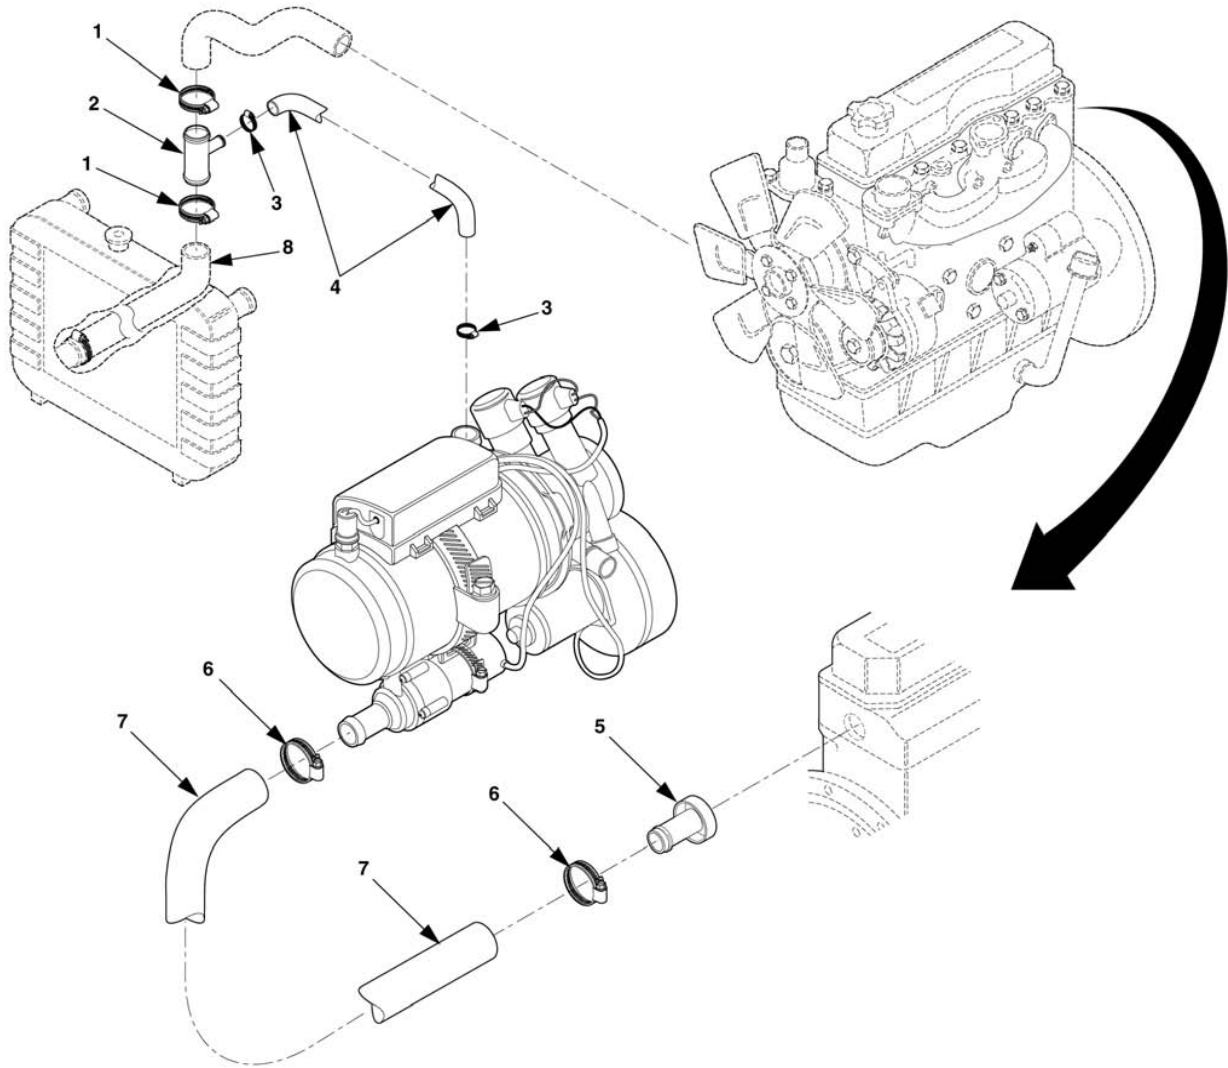

Figure 6-5. Coolant Hoses.
- a. Bottom radiator hose (8, Figure 6-5) must be cut into two pieces. The cut should be about halfway. After the cut is made, a tee valve (2) is inserted between the two halves and secured with two clamps (1). The tee is orientated toward the engine.
- b. Attach a preformed non-metallic hose (4) to the tee valve (2) and secure one end with hose clamp (3) to lower radiator hose (8) as shown.
- c. Run the other end of this coolant line under engine and attach to output end of heater with clamp (3).
- d. Attach new coolant hose (7) to intake side of heater with clamp (6) and secure opposite end of coolant hose (7) to engine port adapter (out-take) (5). Secure with clamp (6).